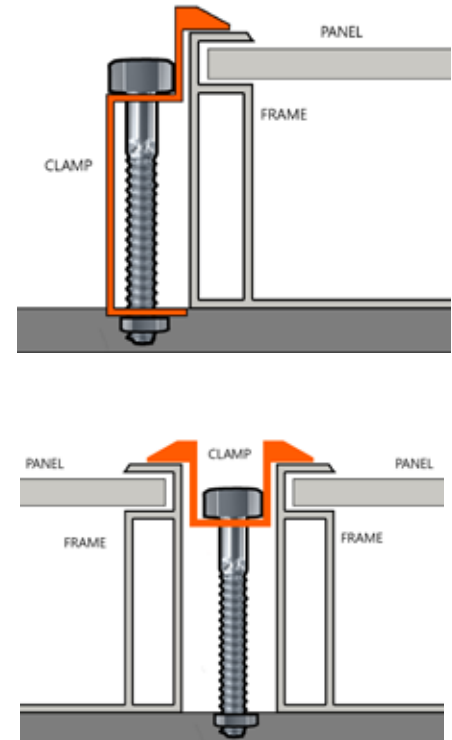

Fig.02 Clamp setup
- The clamps must not contact the front glass of the module or deform the frame in any way. The contact area of clamp with the front of frame must be smooth, otherwise it may damage the frame and hence break the module. Avoid shading effects from the module's clamps. Drainage holes on the modules frame must not be blocked by the clamps. See Figure 02.